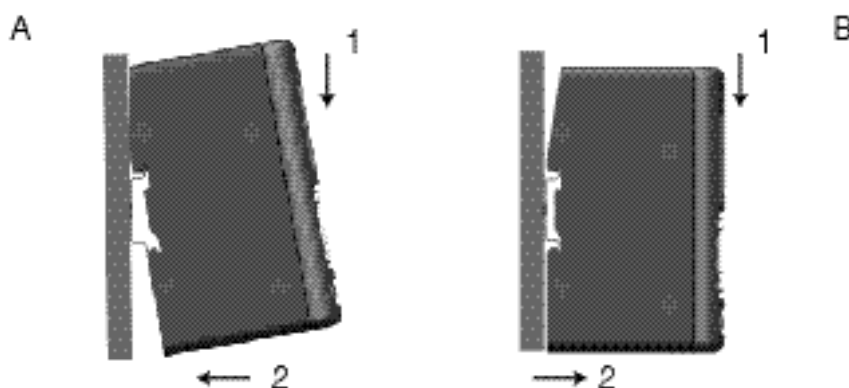

Figure 14: How to use the AB-C with a DIN-rail
- * To “snap the AB-C on” to the DIN-rail, first press the AB-C downwards to compress the spring on the DIN-rail, and then push the AB-C against the DIN-rail as to make it snap on. (Figure 14; A)
- * To “snap the AB-C off” from the DIN-rail, push the AB-C downwards and out from the DIN-rail, as to make it snap off from the DIN-rail. (Figure 14; B)